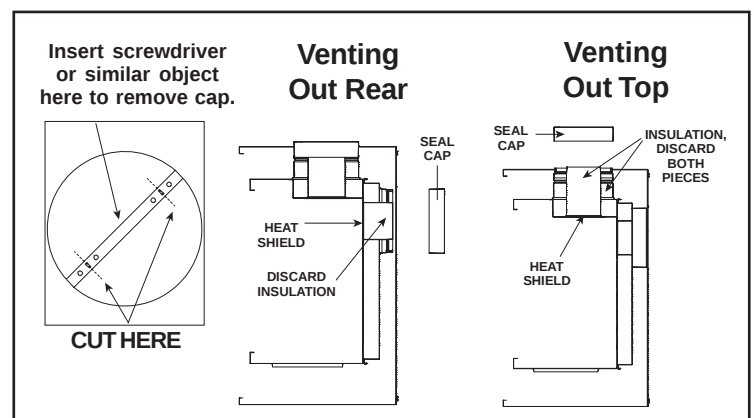

Figure 15
Remove the installed rear seal cap from the rear starting collars by cutting the strap at each end (See Figure 15). Follow the flue configuration tables accordingly.
**! WARNING: THE TOP HEAT SHIELD (INSIDE THE FIREBOX) MUST REMAIN ATTACHED IF THE FLUE SYSTEM IS ATTACHED TO THE REAR STARTING COLLARS. SEE FIGURE 15.**
Remove the top flue collar seal cap by cutting the strap on each end. Remove both pieces of insulation inside the top two starting collars (see Figure 15).
**! WARNING: THE REAR FLUE COLLAR SEAL CAP MUST REMAIN ATTACHED TO THE REAR FLUE COLLARS IF THE FLUE SYSTEM IS ATTACHED TO THE TOP STARTING COLLARS. SEE FIGURE 15.**